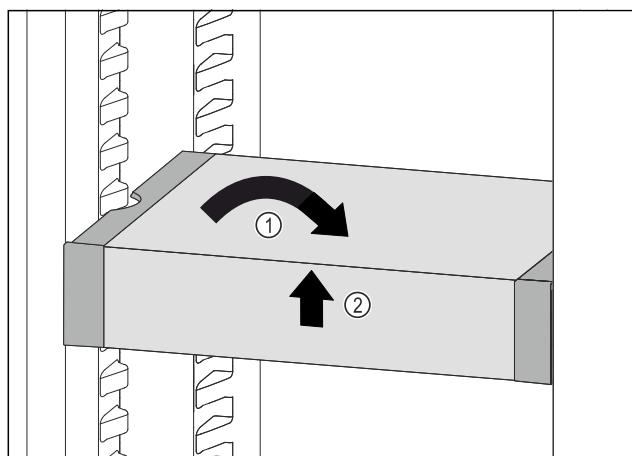

Fig. 96
- ▶ Set VarioSafe straight. Fig. 96 (1)
- ▶ Lift VarioSafe at the front. Fig. 96 (2)